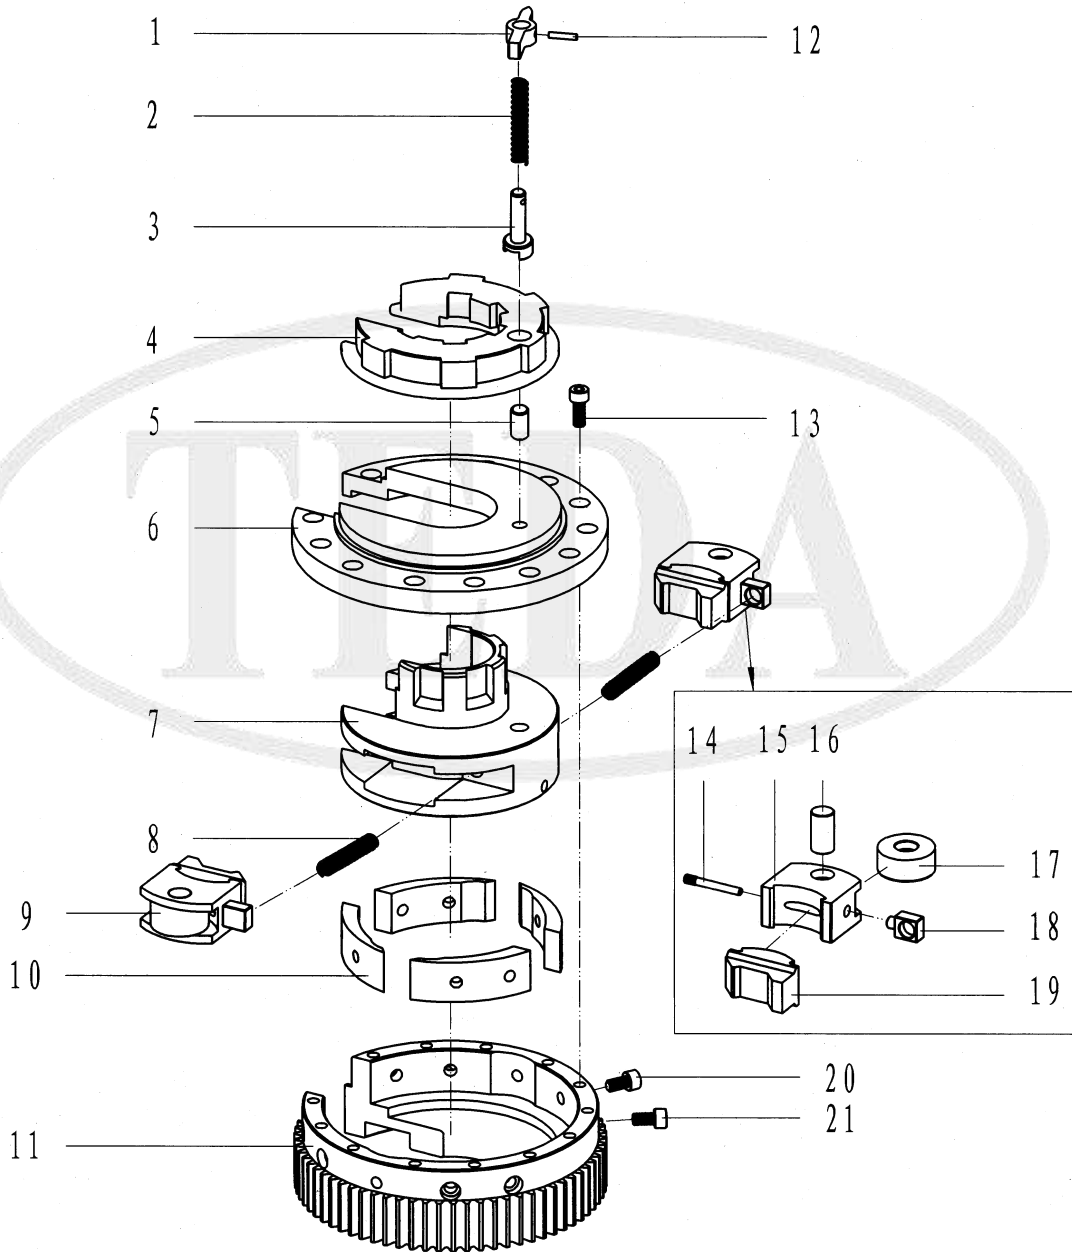

Fig.6 Tong head assembly
9.4 Tong head assembly and parts list (Fig. 6, Table 4)